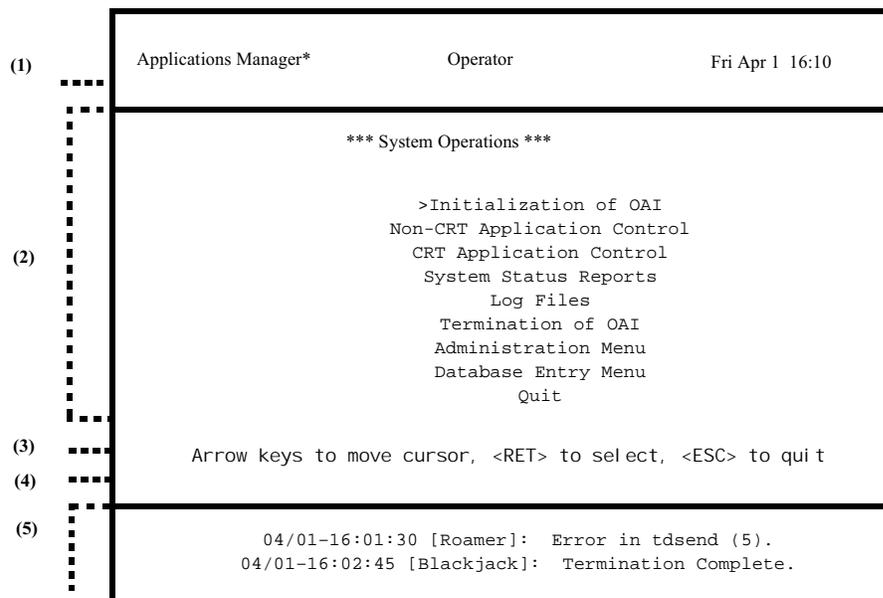

Figure 2-6 Screen Format
- **Screen Format** – A typical APM screen includes the following five components: (Please see Figure 2-6.)